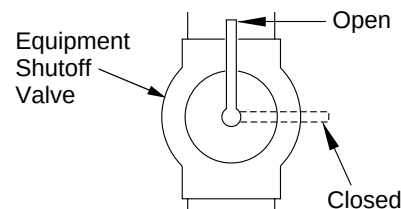

Figure 21 - Equipment Shutoff Valve
1. Close equipment shutoff valve (see Figure 21).
1. Open equipment shutoff valve (see Figure 21, page 12).